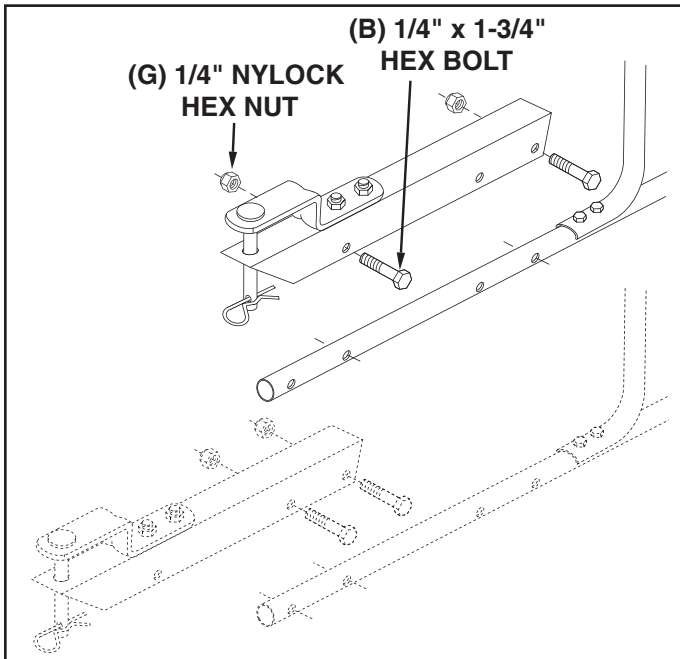

FIGURE 16
28. For most vehicles, assemble the hitch extension bracket to the holes in the hitch tube shown at the **top** of figure 16. Use two 1/4" x 1-3/4" hex bolts (B) and 1/4" nylock hex nuts (G) tightened only finger tight. Attach the spreader hitch to your vehicle hitch. Check for interference with the spreader directly behind and out to both sides of the vehicle. Lift the spreader at each position to make sure there is no interference with the spreader's flow control. If there is interference with the rear of the vehicle, assemble the hitch extension bracket as shown at the **bottom** of figure 16.